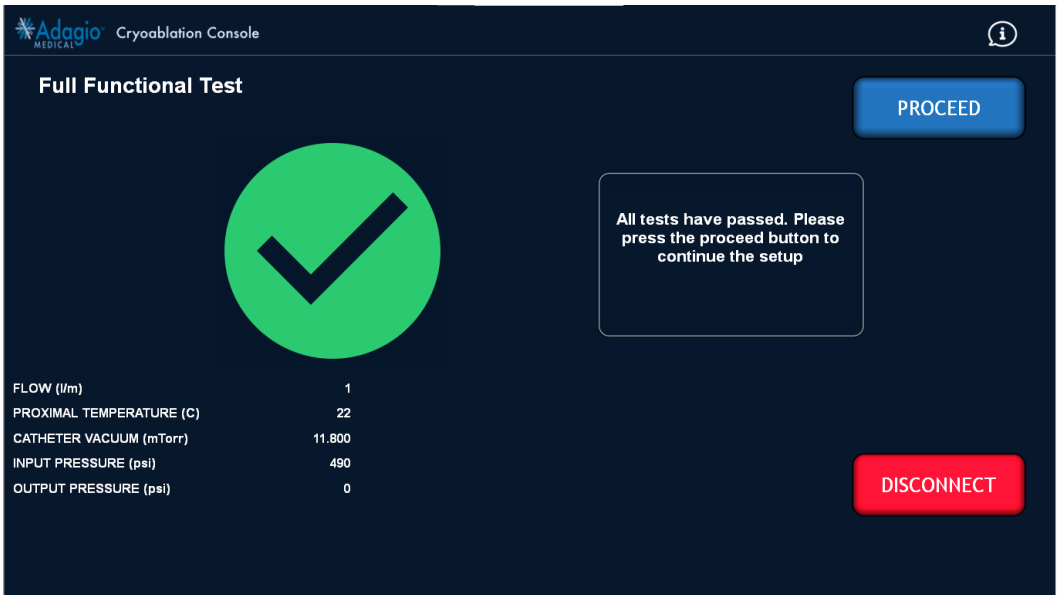

Figure 94 – Full Functional Test Complete Screen Image
11. Upon completion of the Full Functional Test (Figure 94), click on the “PROCEED” button to conclude Full Functional Test mode.